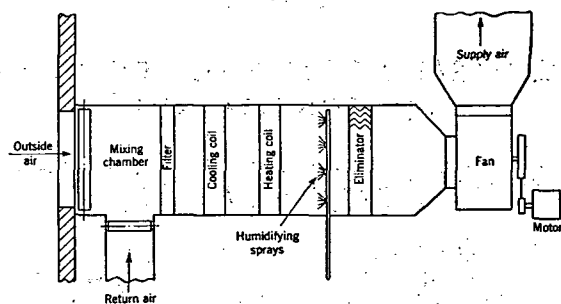

FIG. 1. CENTRAL SYSTEM WITH COILS AND SPRAYS
1. Central system with heating and cooling coils and humidifying sprays (Fig. 1). This system is very common and used extensively for summer and winter conditioning.
6. Residential system. In Fig. 6 is shown a combination of unit equipment used for residential air conditioning. The arrangement is similar to Fig. 1, but the coil, humidifier, and fan section may be purchased as a unit. The sketch shows a system which permits the use of radiators or convectors in kitchens, baths, garages, and similar rooms.